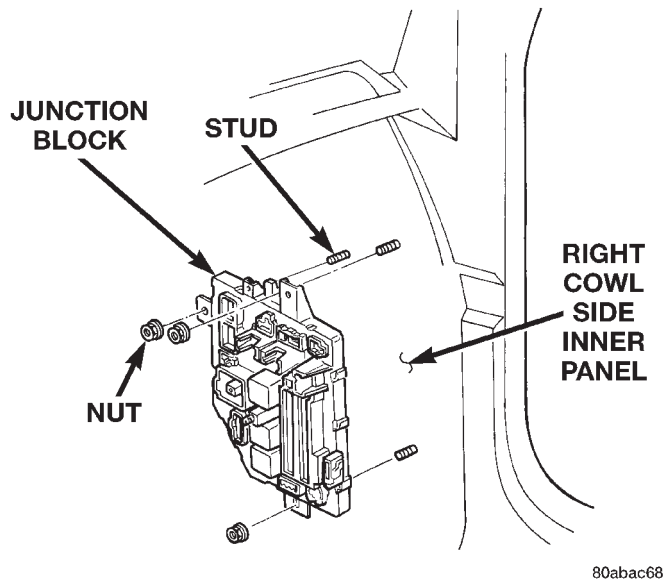

Fig. 7 Junction Block Remove/Install
(5) Remove the screw that secures the right cowl side inner trim panel and right front door sill trim to the door opening sill.
(6) Remove the trim from the right cowl side inner panel.
(7) Remove the screw that secures the lower instrument panel wire harness connector to the junction block.
(8) Disconnect all of the wire harness connectors from the connector receptacles on the junction block.
(9) Remove the three nuts that secure the junction block to the studs on the right cowl side inner panel (Fig. 7).
(10) Remove the junction block from the right cowl side inner panel.